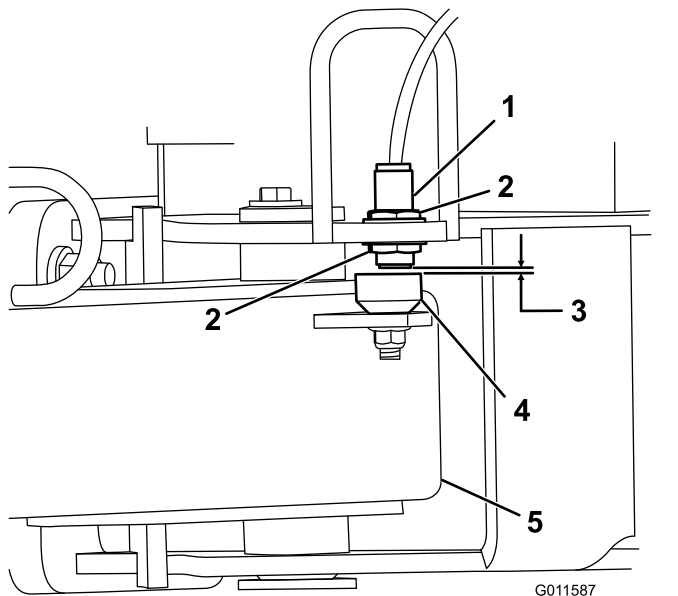

Figure 4
- Loosen the jam nuts securing the proximity switch to the frame and lower the switch until it is 2.6 to 4.0 mm (0.10 to 0.16 inch) from the sensing plate on the hitch tongue (Figure 4). Tighten the jam nuts to secure the adjustment.